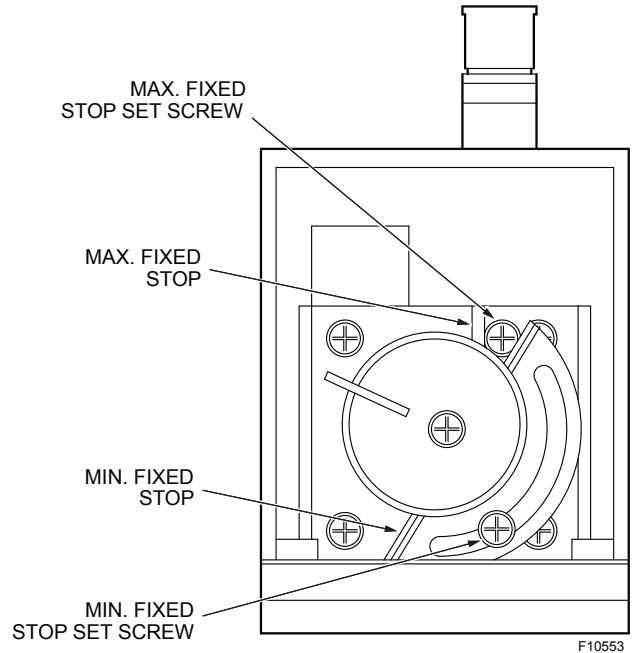

Figure 5. Actuator Stops
NOTE: Before starting the boiler, ensure the actuator stops are in the correct position. See **Figure 5**.
4. The actuator stops are in the correct position. See **Figure 5**.